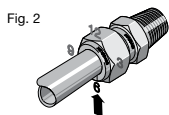

Fig. 2
2. Mark the nut at the 6 o'clock position. *Fig. 2.*